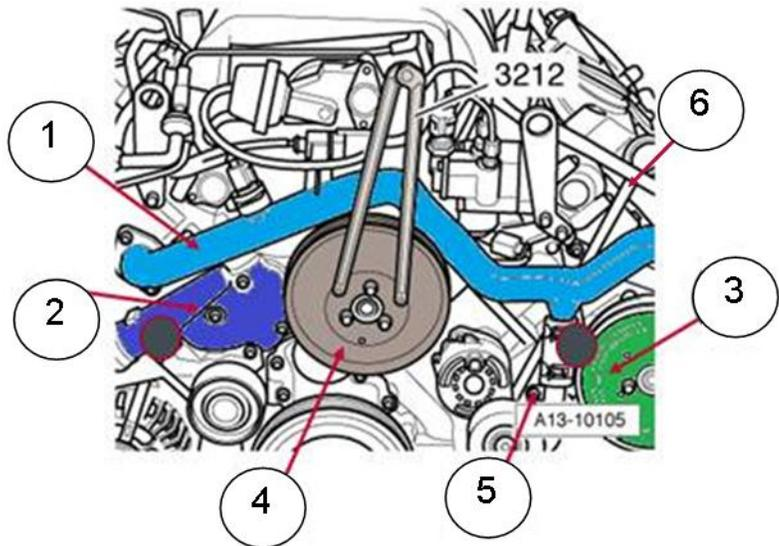

Figure 9. Engine component removal
- Coolant pipe (Figure 9,1)
- Coolant flange (Figure 9,2)
- Pulley and if needed bracket, of power steering pump (Figure 9,3)
- Pulley of water pump (Figure 9,4)
- Coolant tube (Figure 9,5)
- Dipstick tube (Figure 9,6)